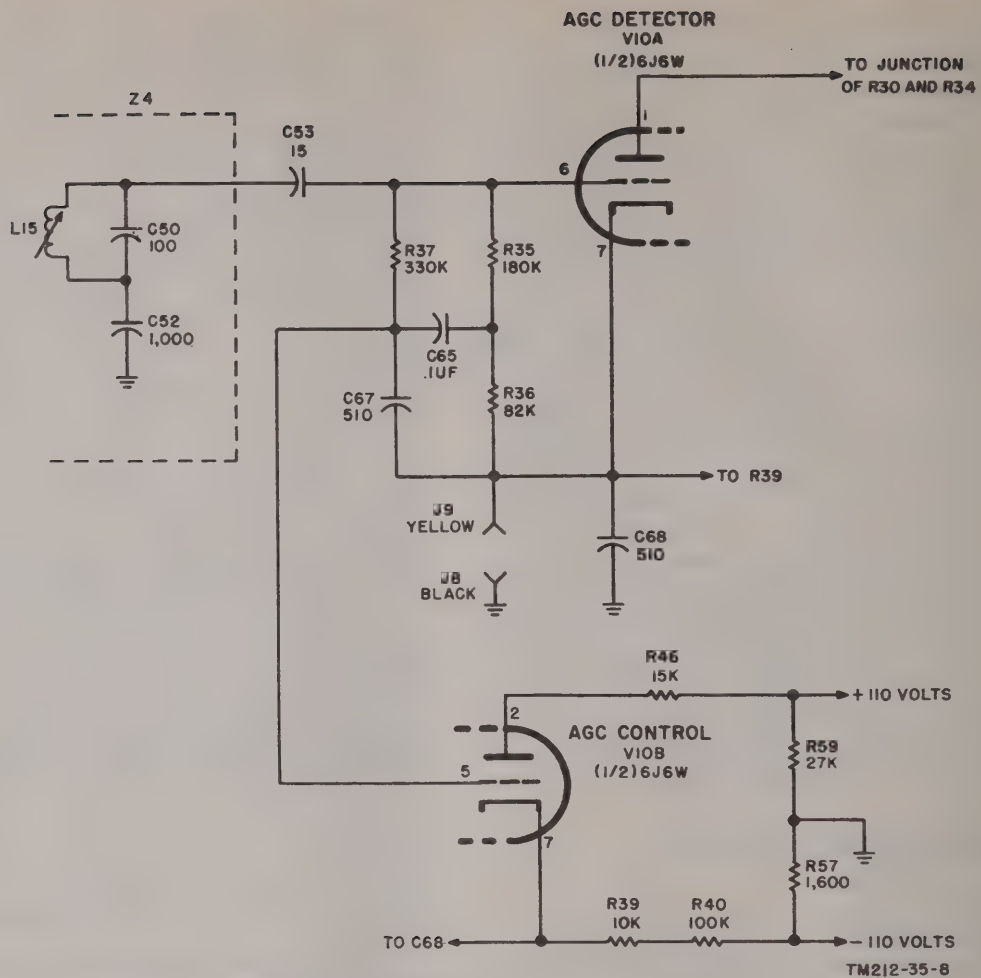

Figure 8. Agc detector V10A and agc control V10B.
(fig. 8 and 9)
a. The grid and cathode (pin 6 and pin 7) of V10A (fig. 8) operate as an age detector diode which provides a dc voltage that is proportional to the received signal strength. RF current flows in the following manner; from the bottom of L15 and C50 to ground through C52 (fig. 8), from ground through C68 to the cathode of the age diode (pin 7), through the diode, through C53, back to the other side of L15 and C50. The age detector conducts only when the top of L15 and C50 is positive in respect to the bottom of L15 and C50. The network composed of R35, R37, C65 and C67 is a filter designed to remove the 5-mc RF ripple and produce a steady dc voltage across C67. The magnitude of this voltage is